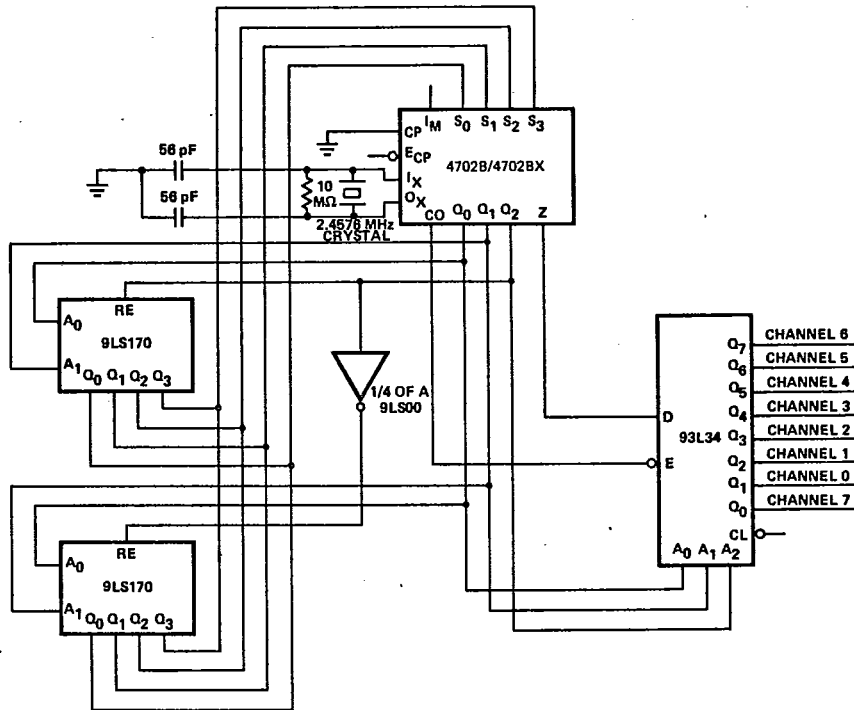

Fig. 3
**Fully Programmable Multichannel Operation** — Figure 3 shows a fully programmable 8-channel bit rate generator system that, under computer control, generates arbitrarily assigned bit rates on all eight outputs simultaneously. The basic operation is similar to the previously described fixed programmed system, but two 9LS170 4 x 4 Register File MSI packages are connected as programmable look-up tables between the Scan Counter outputs (Q0 to Q2) and the multiplexer Select inputs (S0 to S3). The content of this 8-word by 4-bit memory determines which frequency appears at what output.